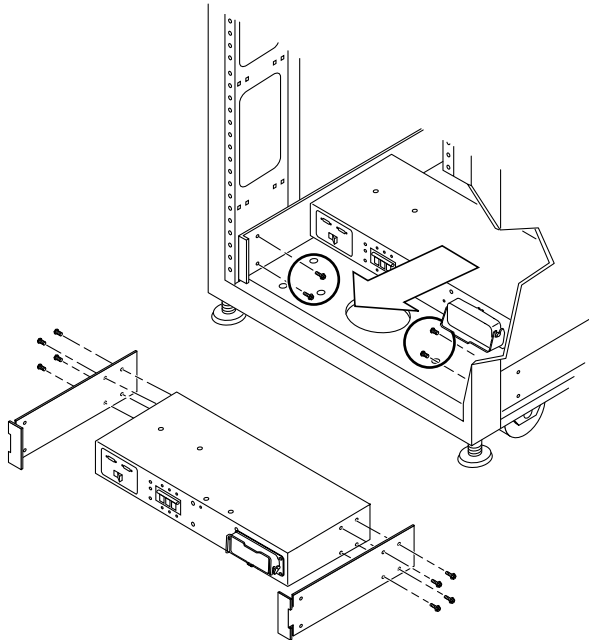

FIGURE 10-1 Removing the Power Sequencer
- 2. Disconnect the key switch adapter cable from the mating power supply connector at the back of the power sequencer (FIGURE 10-1).**
1. Slide the power sequencer into the storage system (FIGURE 10-1).